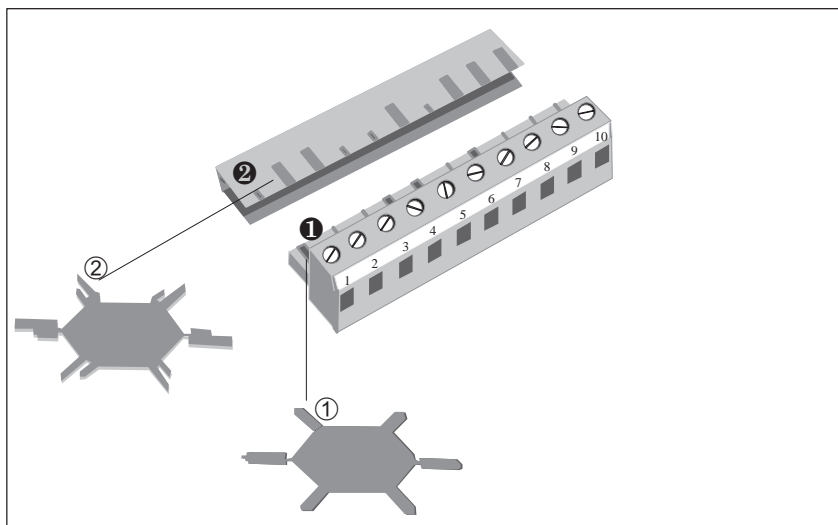

Figure 2-17 The Coding Ensures that the Correct Connector is Inserted
The solid coding keys ① and profiled coding keys ② (see Figure 2-17) prevent a connector from being confused with another without polarity reversal.